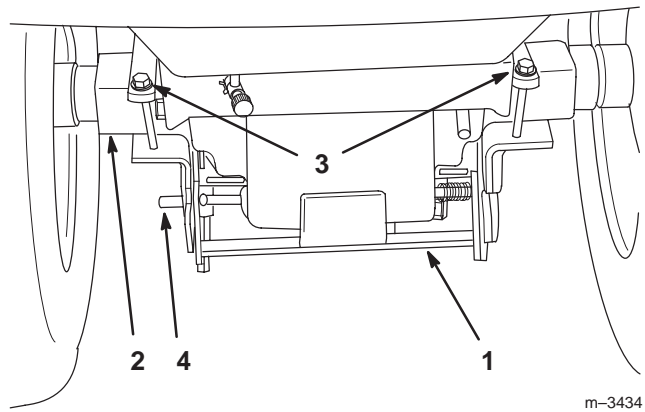
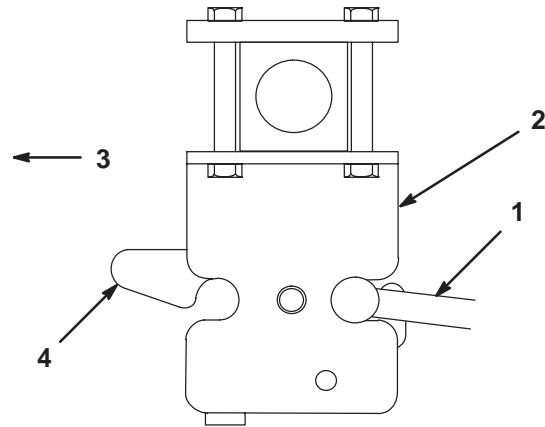

Figure 9
Figure 10
12. Press the release button (Fig. 9) at the Attach-A-Matic™ to open the latches. Place the rear cross-bar of the blade frame into the front two slots of the Attach-A-Matic™. Press on the latches at the rear until they lock the blade frame in place (Fig. 10).